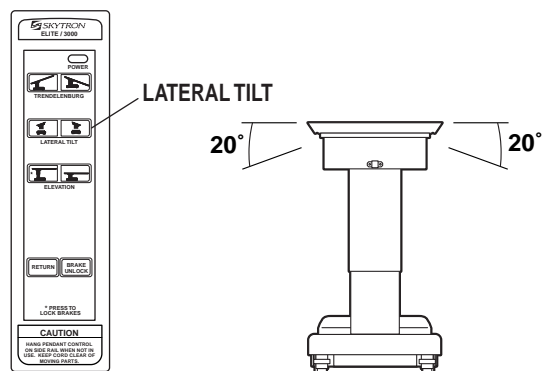

Figure 2-5. Lateral Tilt Positioning
c. Lateral Tilt. To achieve lateral tilt right positioning, press the appropriate LATERAL-TILT button (figure 2-5). Tilt of up to 20° may be obtained.